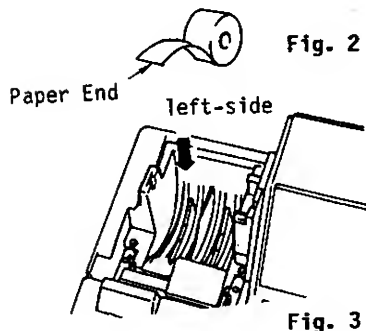
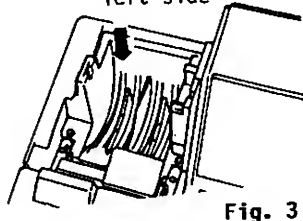

Fig. 2
Fig. 3
3. Set the new paper roll in the receipt roll holder with the paper end fed from the bottom as shown in Fig. 2 (Fig. 3).